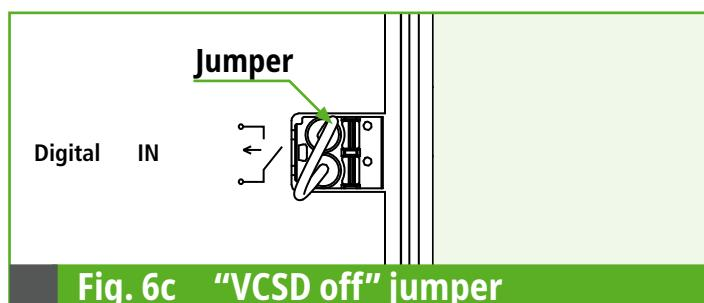

Fig. 6c "VCSD off" jumper
- ➲ Ensures switch-off of the device via remote access to prevent possible interference, for example during a DCVG/ACVG survey (IFO) carried out by cathodic protection specialists, or to ensure safe connection and disconnection (jumper „VCSD aus“ see Fig. 6c)